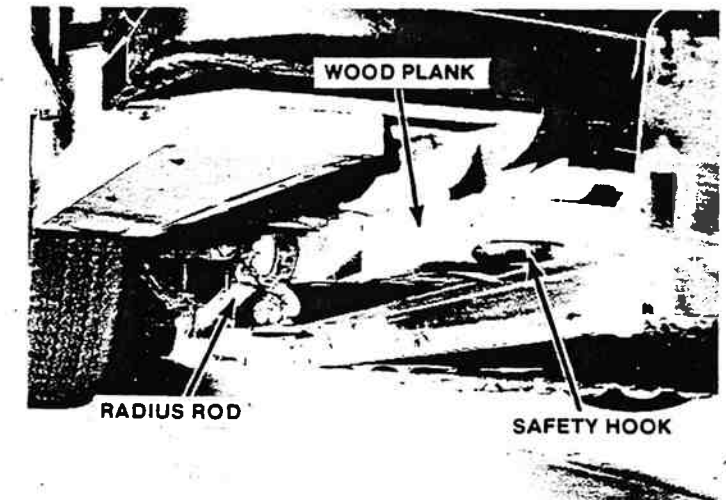

Figure 3-5. Dolly and Plank Position.
To use the frame, you will need to have a hardwood plank for placement between the coach undercarriage and the lifting tool. See figure 3-5. The dimensions of the plank are minimum 4" high x 8" wide x 60" long.
7. As shown in figure 3-5, wrap the tow chains around the radius rods in the following manner: